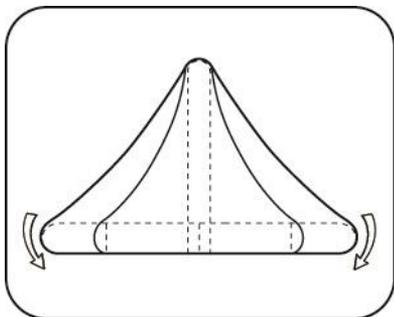

FIGURE 15
8. Tuck elasticized bottom edge of orange canopy over outside of raft tube (See Figure 15).